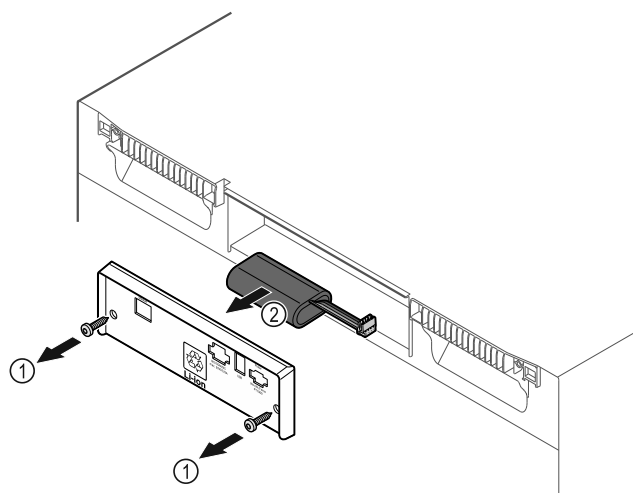

Fig. 184
- ▶ Unscrew screws and remove cover from the back of the appliance Fig. 184 (1).
- ▶ Disconnect and remove battery Fig. 184 (2).